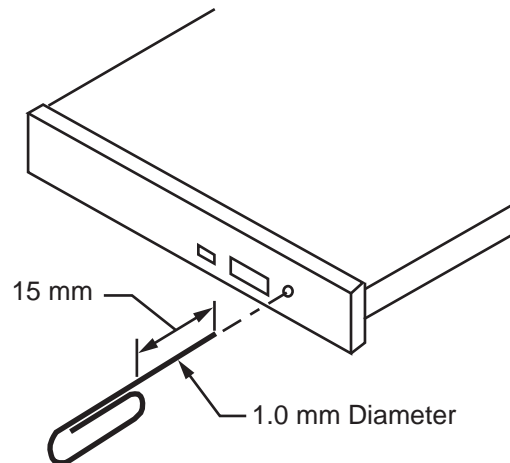

Figure 3-5. Manually Ejecting the CD-RW Drive Tray
1. To release the drive tray, insert a 1.0 mm diameter paper clip into the manual release hole as shown in Figure 3-5.